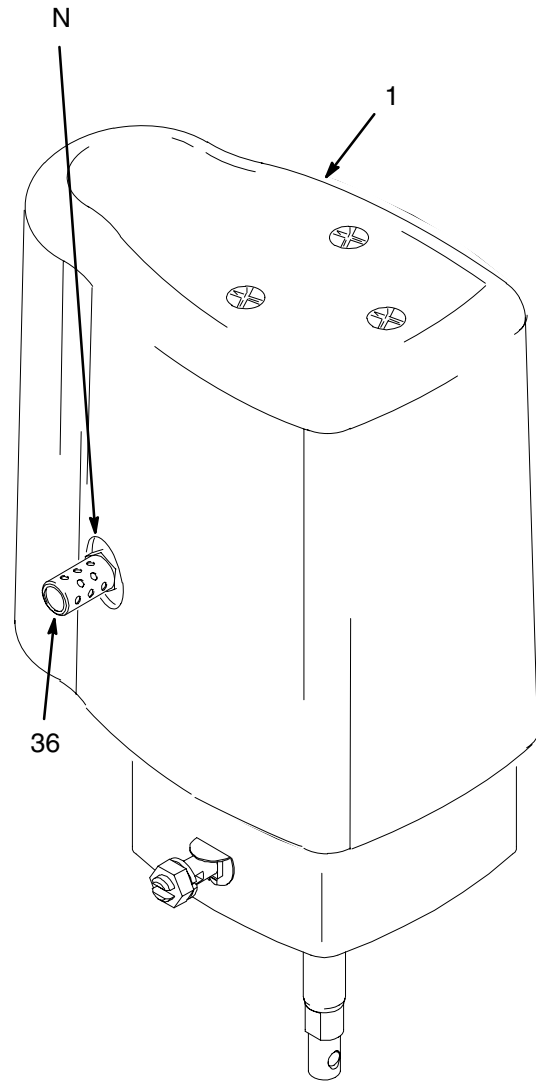

Fig. 1
Make sure the muffler (36) is securely installed in the exhaust port (N) before you operate the air motor. See Fig. 1.